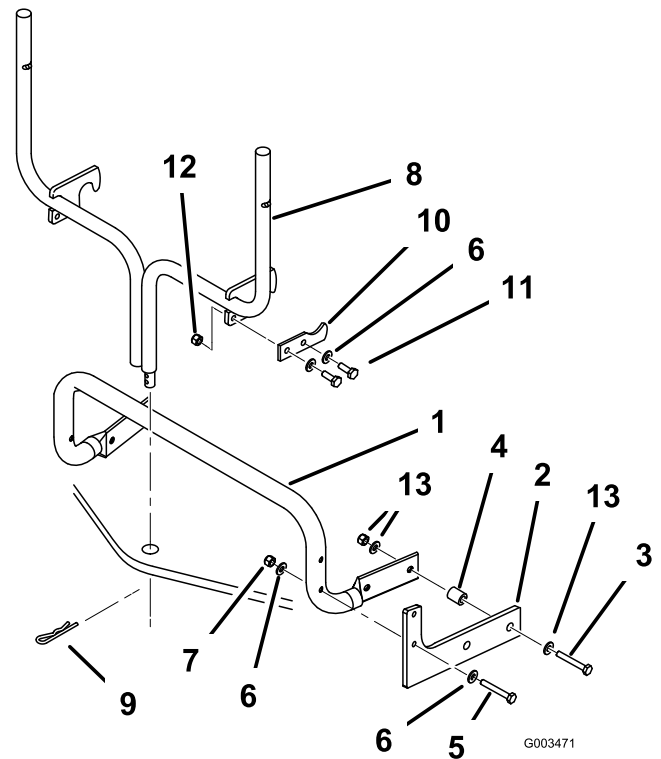

Figure 15
2. Attach the support rod and gussets to the tractor with four bolts (5/16 x 2 inches) and four spacers and the washers and locknuts removed in the previous step (Figure 15).
3. Secure the upper half of the gusset to the rear support rod with four bolts (1/4 x 1-3/4 inch), eight washers (1/4 inch), and four locknuts (1/4 inch) (Figure 15).
4. Slide the bottom of the quick-attach bracket down into the hole in the hitch and hook the notches over the rear support rod (Figure 15)
5. Slide the hairpin cotter through the hole at the bottom of the quick-attach bracket (Figure 15)
6. Attach the bagger plates to the quick-attach bracket using four bolts (1/4 x 1-3/4 inch), four washers (1/4 inch), and four locknuts (1/4 inch) (Figure 15)